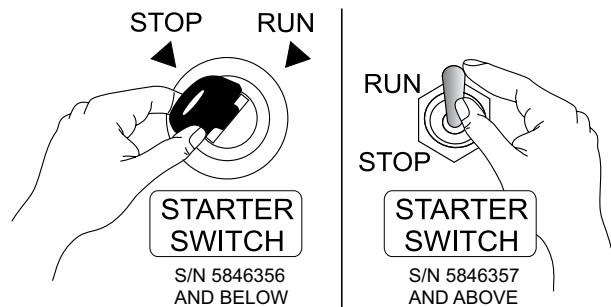

Figure 23. Starter Switch (RUN Position)
5. Insert ignition key (Figure 23), S/N 58446356 and below into the “Starter Switch” and turn key clockwise to the **RUN** position or place starter toggle switch, S/N 58446357 and above in the **RUN** position.